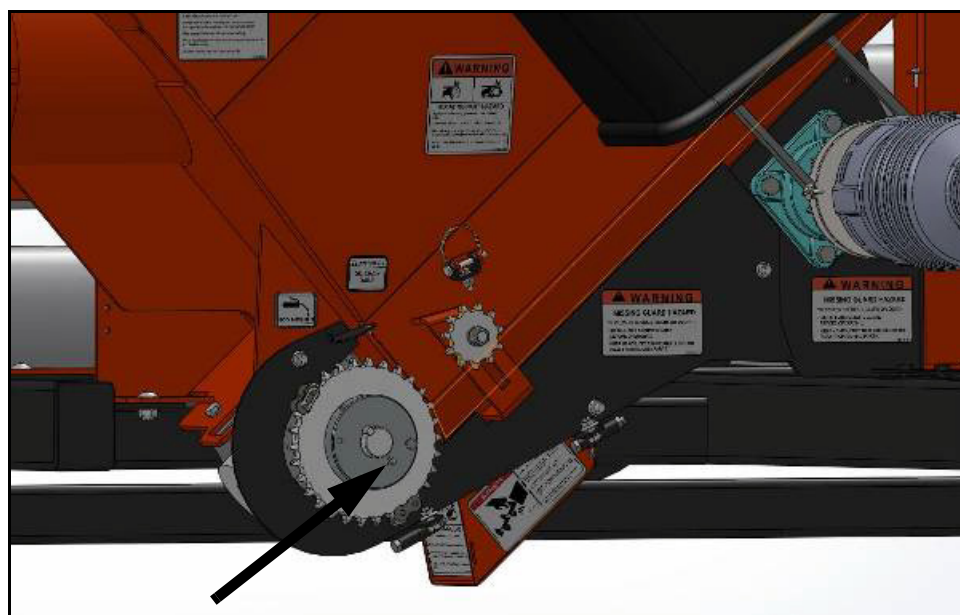

Figure 5.18 Shear Sprocket
2. Clean and lubricate the shear sprocket using the grease zerk on the face of the shear hub (see Figure 5.18).